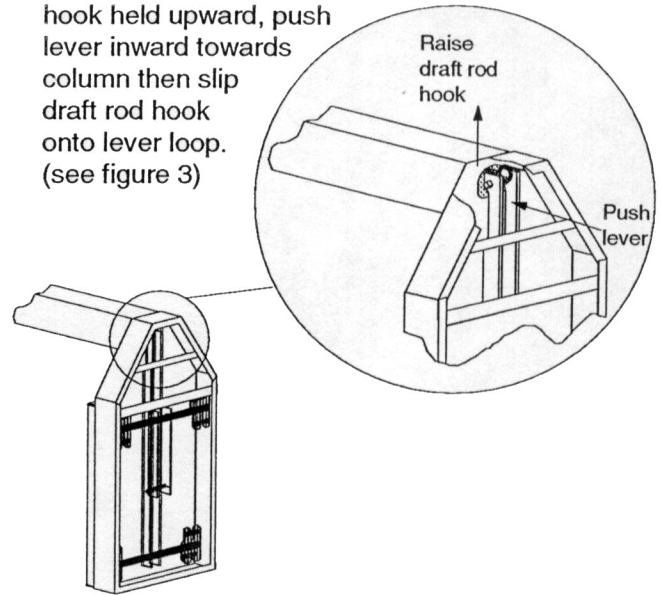

Figure 3 - View showing procedure for attachment of draft rod hook onto lever loop in platform base.
3. Lay scale on table top with platform base pointing down and column horizontal to floor. With draft rod hook held upward, push lever inward towards column then slip draft rod hook onto lever loop. (see figure 3)